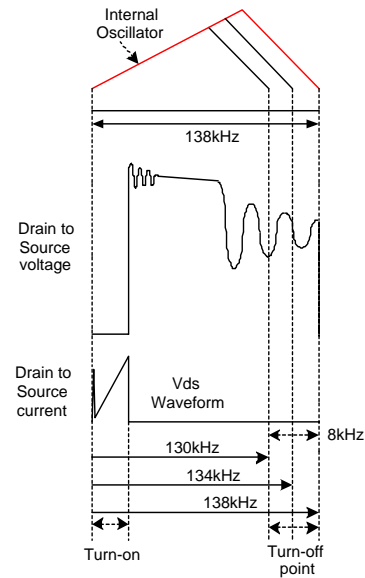

Figure 14. Frequency Modulation Waveforms
**7. Frequency Modulation :** EMI reduction can be accomplished by modulating the switching frequency of a SMPS. Frequency modulation can reduce EMI by spreading the energy over a wider frequency range. The amount of EMI reduction is directly related to the level of modulation (Fmod) and the rate of modulation. As can be seen in Figure 14, the frequency changes from 130kHz to 138kHz in 4mS for the FSD200/FSD210. Frequency modulation allows the use of a cost effective inductor instead of an AC input mode choke to satisfy the requirements of world wide EMI limits.